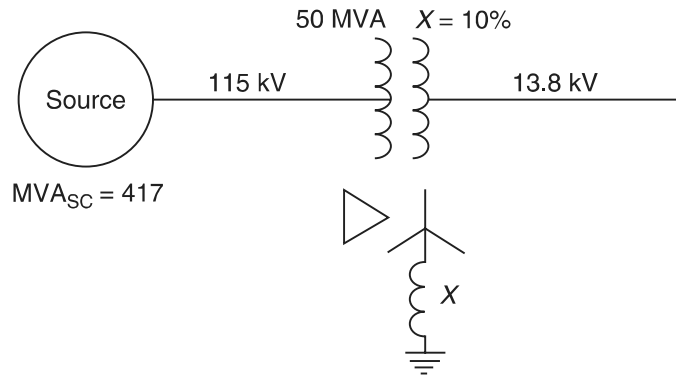

FIGURE P7.4
- 7.4 a.** To limit ground faults, a reactor is to be connected in the grounded neutral of the 13.8 kV winding of the transformer (Figure P7.4). Calculate the value of the reactor in ohms required to limit the solid single-phase-to-ground current on the 13.8 kV side to 4000 A.